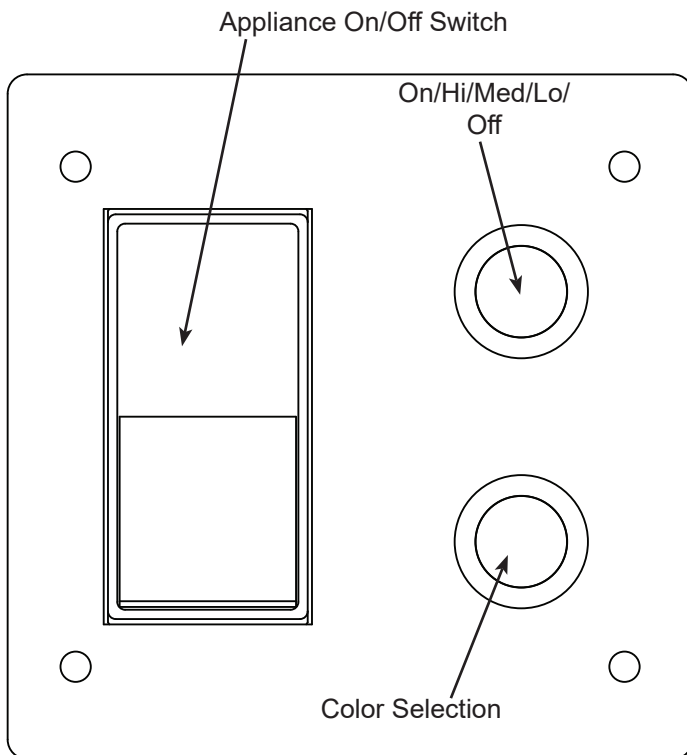

Figure 9
- Multi-colored LED lights - The two (2) round buttons on the right in Figure 9 turn LEDs ON (HI/MED/LO) and OFF function and cycle through the color selection.